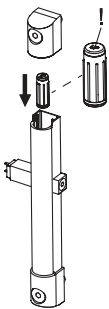

Fig.5
- Clamp the bracket with the set screw to the desired position (Fig. 5).